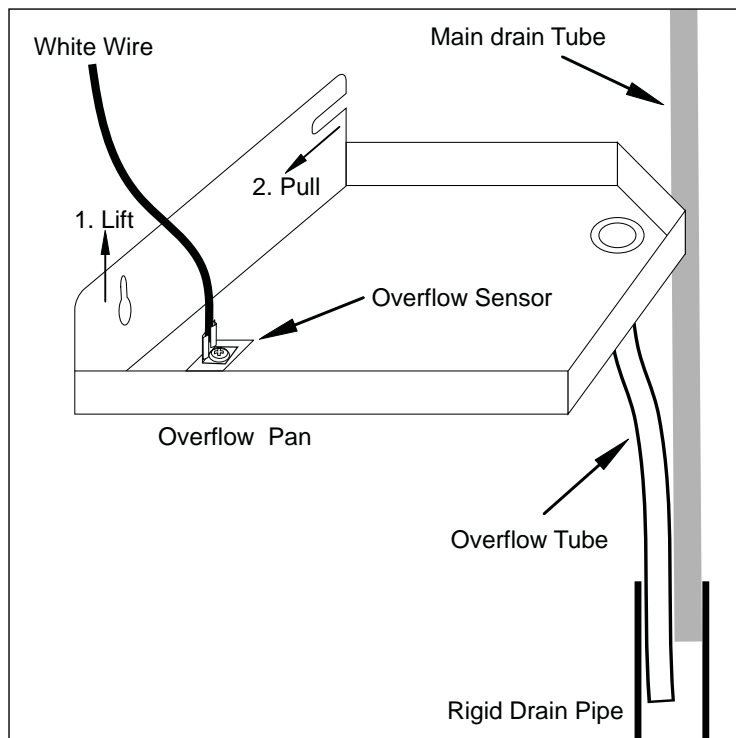

Fig. 8a
8.4 You do not have to remove the plastic tube attached to the bottom of the pan. Remove the overflow pan from the unit by lifting the front of the pan off the screw and pulling it towards you, slightly loosen the front screw if necessary. Please see Fig. 8a. Remove the main drain tube from the rigid drain pipe attached to the wall and check that the tube is clean and clear from deposits.